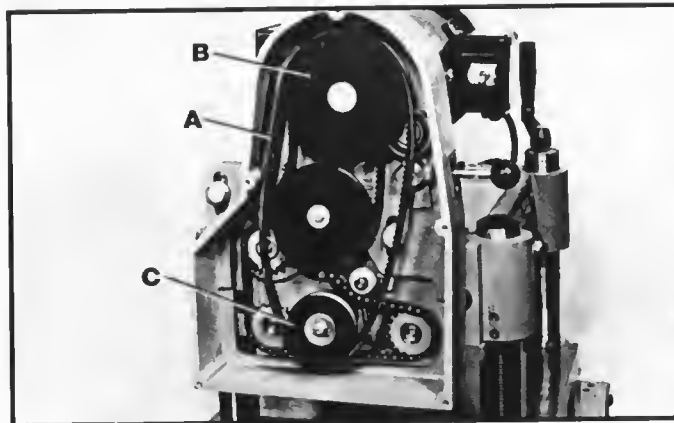

Fig. 12
1. Assemble cutterhead belt (A) Fig. 12, to the outside groove of the motor pulley (B) and groove of cutterhead pulley (C), as shown.